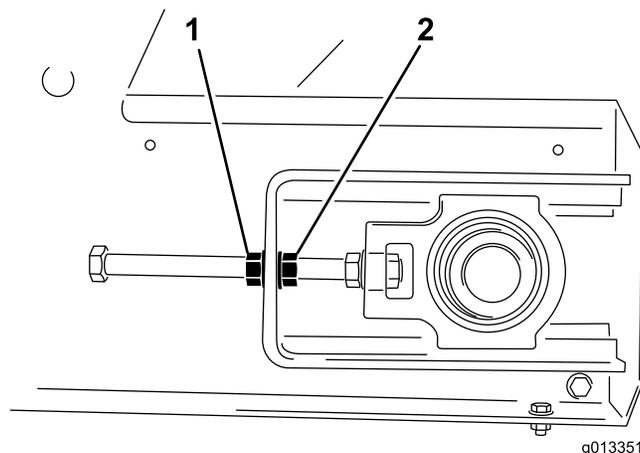

Figure 49
4. With two wrenches, hold the end of the tensioner rod stationary and then loosen the locking nut, which is the nut closest to the end of the rod (Figure 49).
3. On the side the belt is tracking towards, hold the end of the tensioner rod stationary, then loosen the locking nut and tighten the adjuster nut by two flats of the nut (Figure 49).